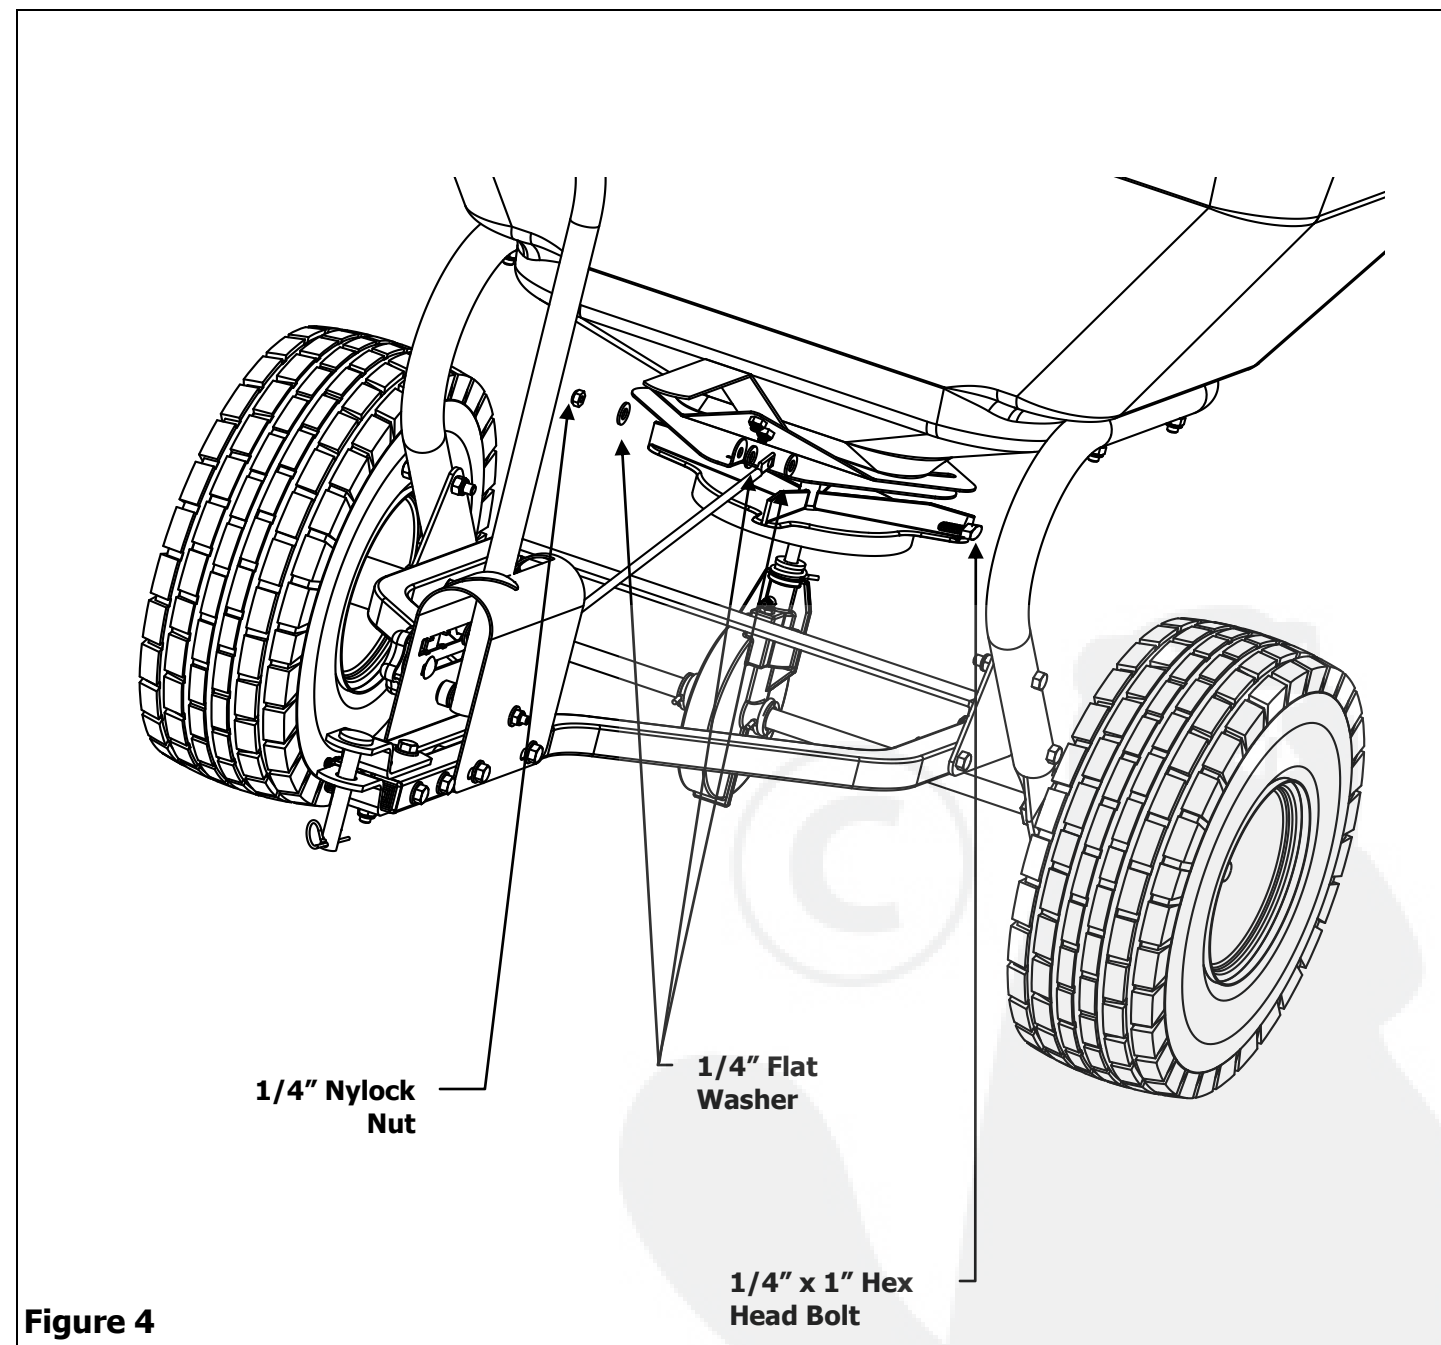

Figure 4
2. Place the Handle in the closed position. Check inside the Hopper to make sure there is no gap between the Slide Plate and the Hopper opening on the bottom. If there is a gap, adjust the Control Housing either forward or back until the gap closes to the edge of the Hopper bottom. Once this is accomplished, tighten the two bolts on the Control Housing to lock the adjustment in place. See Figure 4.